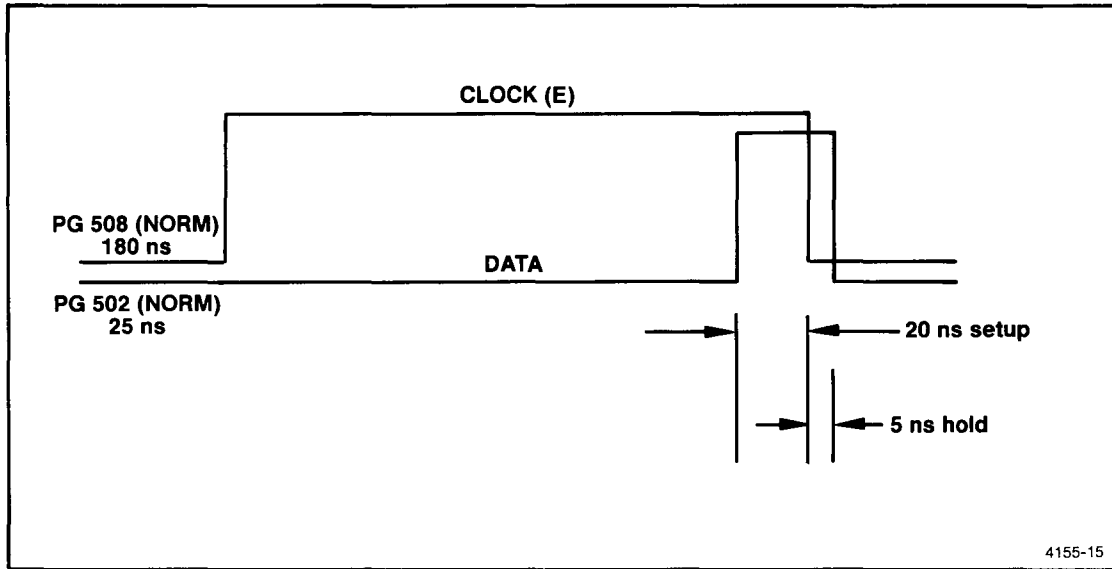

Figure 5-5A. Timing option data setup and hold (normal).
12. Connect the channel 2 oscilloscope probe to ground (pin 1) and pin 34 (E) of the PM 111 40-pin microprocessor plug.
15. Adjust the PG 508 delay adjustment to 0.1 microsecond. Adjust the variable position knob until the trailing edge of the data pulse is 5 ns beyond the trailing edge of the clock pulse (PG 508 output). Refer to Figure 5-5A.